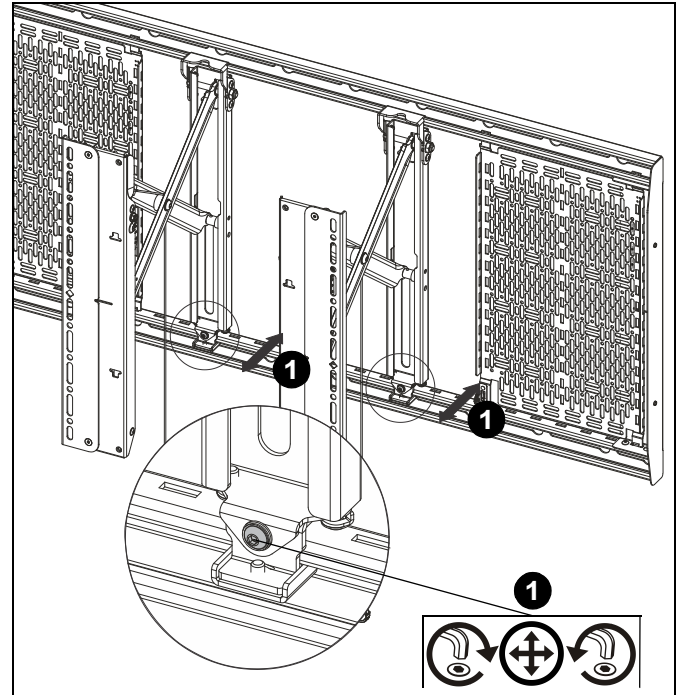

Figure 32
1. Adjust plumb adjustment screws to adjust plumb of each interface bracket (A and B). (See Figure 32)